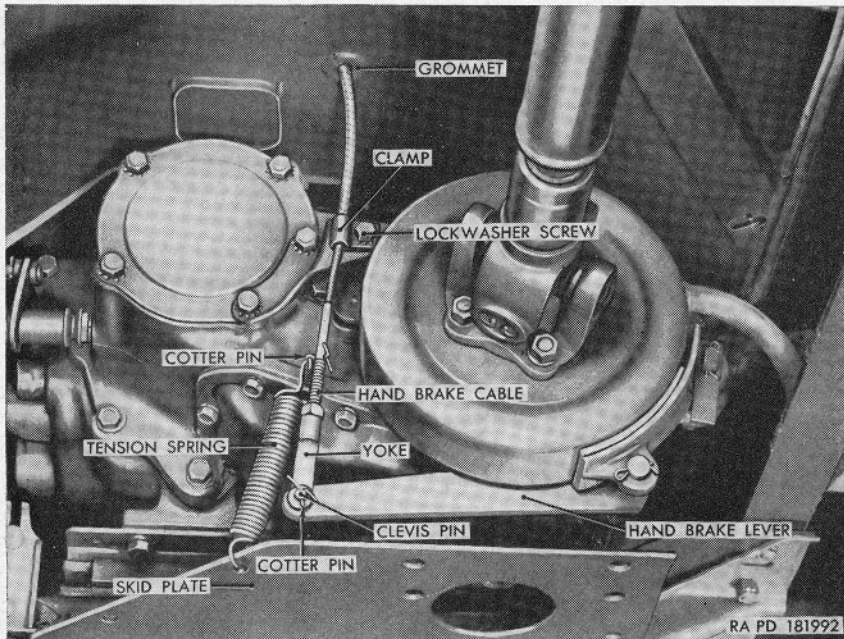

Figure 26.8. (Added) Disconnect points under body M170.
- (a) Remove the tension spring (fig. 26.8) from the skid plate and the cotter pin through the hand brake cable.